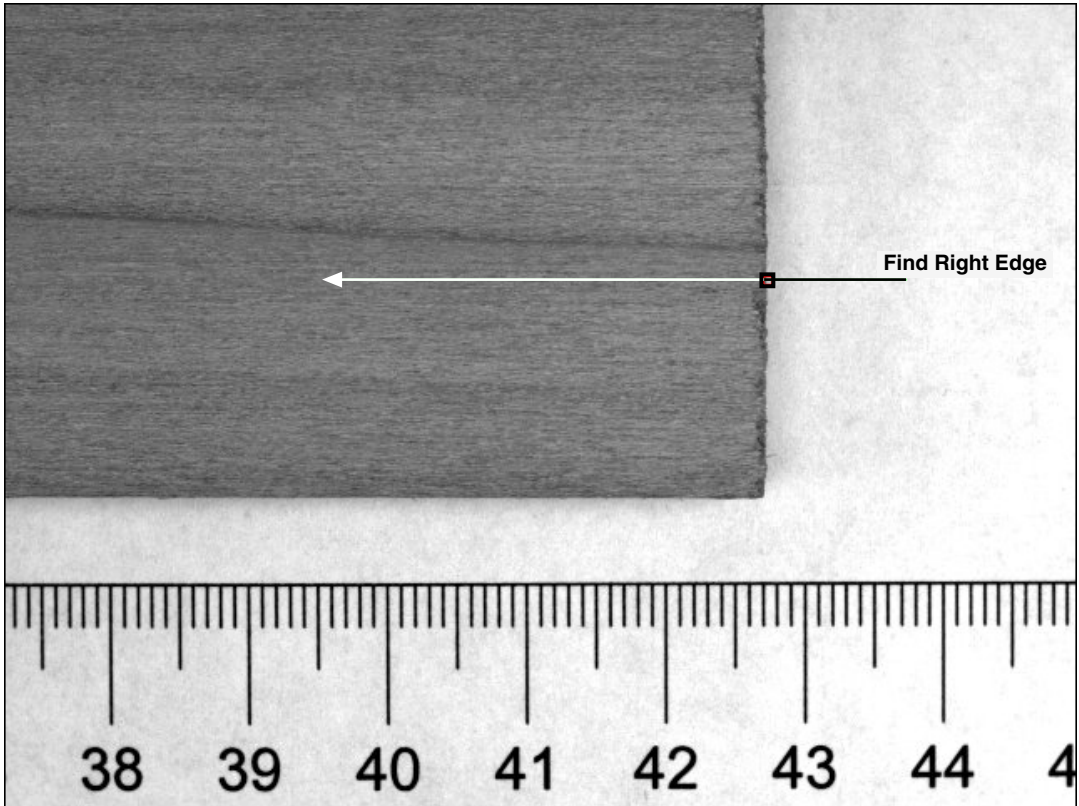

Figure 5-3. Finding the Right Edge of the Plank
4. Hold down <Shift> and draw a line across the right edge of the part going from right to left, as shown in Figure 5-3.